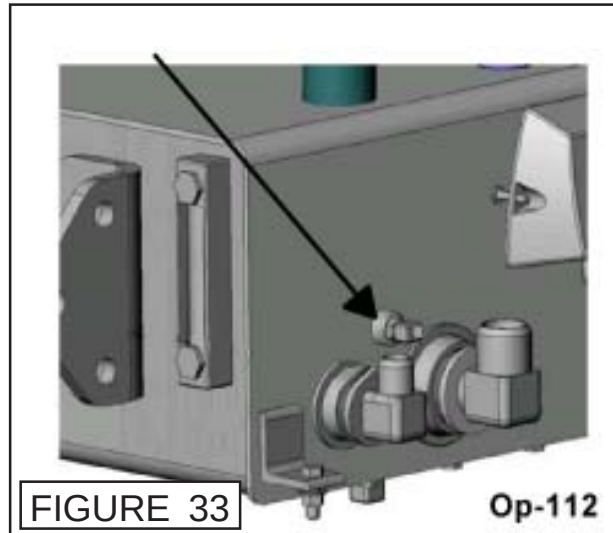

FIGURE 33
2. Tank Temperature Sensor The tank temperature sensor monitors the fluid temperature in the area of the pump suction screens. the temperature is real time and is used on the network to accomplish certain objectives. The first, is to display on the interface while the cutter circuit is operating. The second, is to be used to control the electric fan on the hydraulic cooler. At any time the fluid level reaches 150° F. the fan is activated and remains activated until fluid temperature drops to or below the desired temperature (See Figure 33).